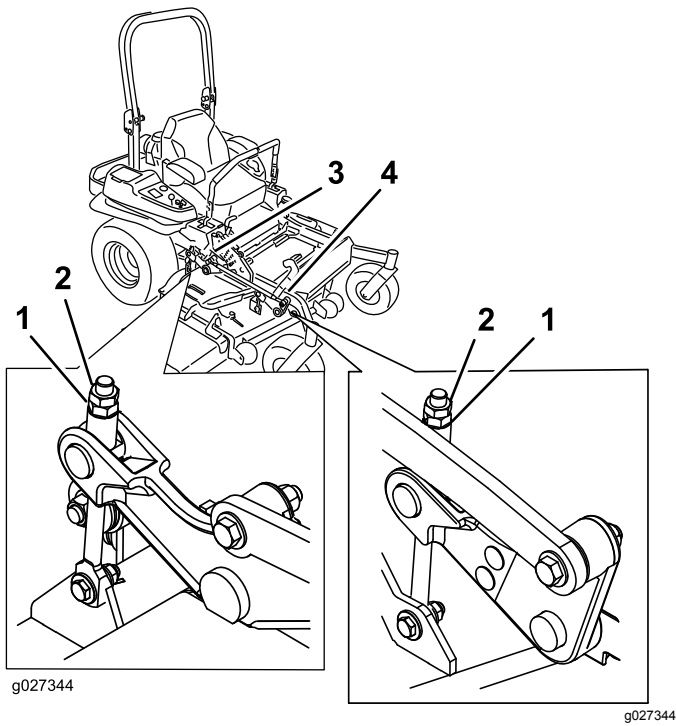

Figure 94
10. Fine-tune the adjustment nut on the front deck-lift assembly by turning it (Figure 94).
16. Fine tune the screw adjuster by turning it to get 8.3 mm (3-1/4 inches) height (Figure 94).